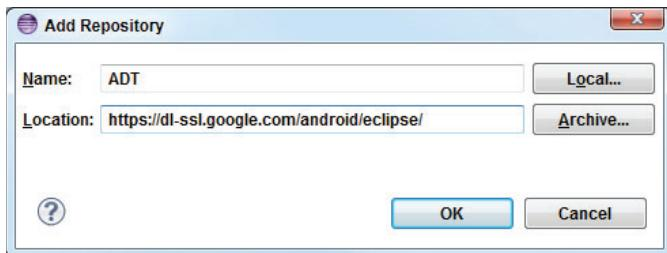

FIGURE 4-8: Add the new repository.
- 2.** Add a new repository by clicking the Add button; set the name to ADT and the location to <https://dl-ssl.google.com/android/eclipse/>, as shown in Figure 4-8.